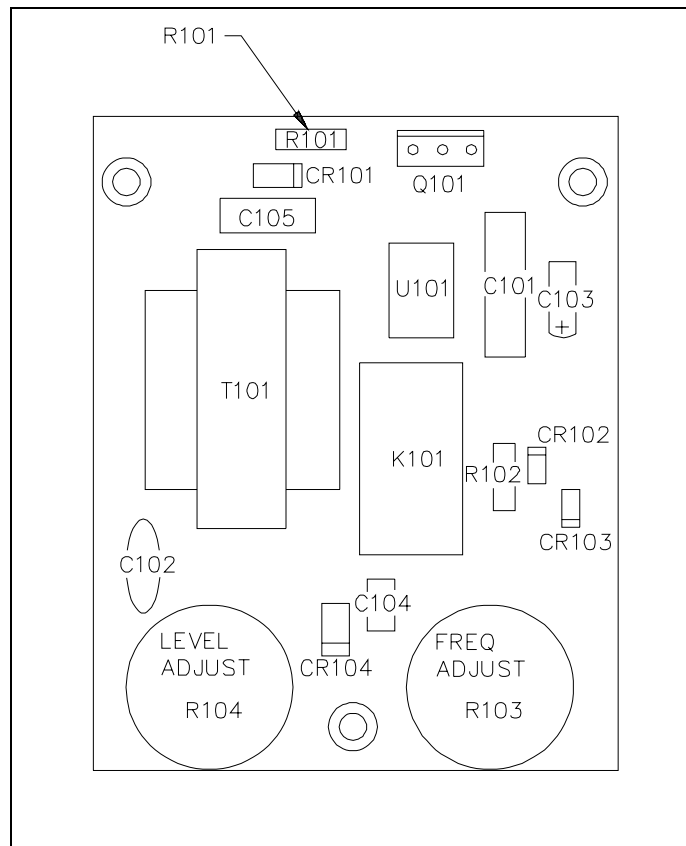

Figure 2. VLC PCBA Component Location
3. Replace R101 by de-soldering and removing the old resistor. Insert the 6,200 ohm, ¼ watt, 5% (blue-red-red-gold) resistor provided in this kit into the PCBA, and resolder it. See Figure 2.
**Note:** “E” locations may vary slightly from what is shown in Figure 2; however, the connections remain the same.